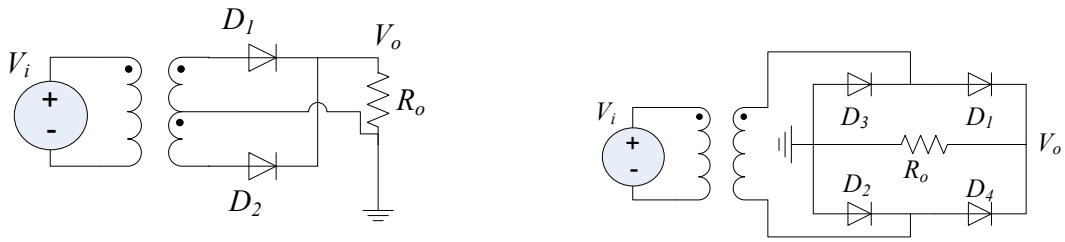

Figure 3.1: (a) a full-wave rectifier with center-tapped transformer; (b) a full-wave bridge rectifier.
It is assumed that the built-in voltage of diode is  $V_\gamma$  in Fig. 3.1, assume  $V_i$  is known, please find the expressions of  $V_o, V_{D_1}, V_{D_2}$  for Fig. 3.1(a);  $V_o, V_{D_1}, V_{D_4}$  for Fig. 3.1(b) theoretically.
1. Construct the circuit of Fig.3.1(a) on a breadboard using the diode (1N4148) and  $R = 1k\Omega$ , let  $V_i$  be a sinusoidal signal with 100Hz frequency and 3V peak
1. Construct the circuit of Fig.3.1(b) on a breadboard using the diode (1N4148) and  $R = 1k\Omega$ , let  $V_i$  be a sinusoidal signal with 100Hz frequency and 3V peak